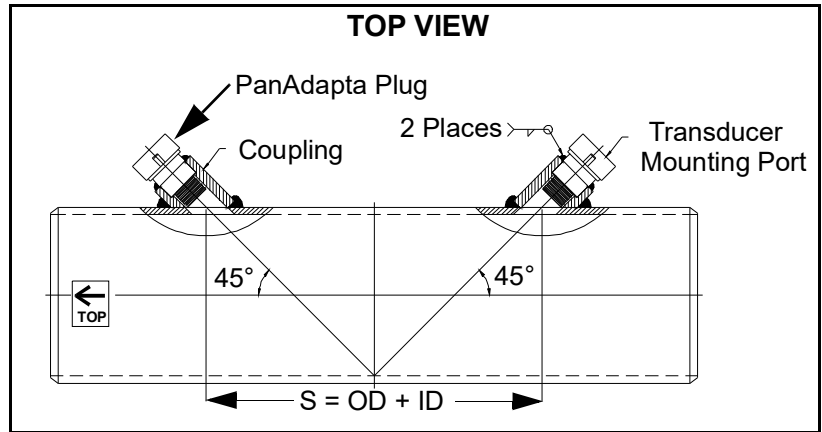

Figure 21: PanAdapta Plugs Socket-Welded into Spoolpiece Flowcell
- *Metal*: Socket-weld the PanAdapta plug into the port (see Figure 21 below).